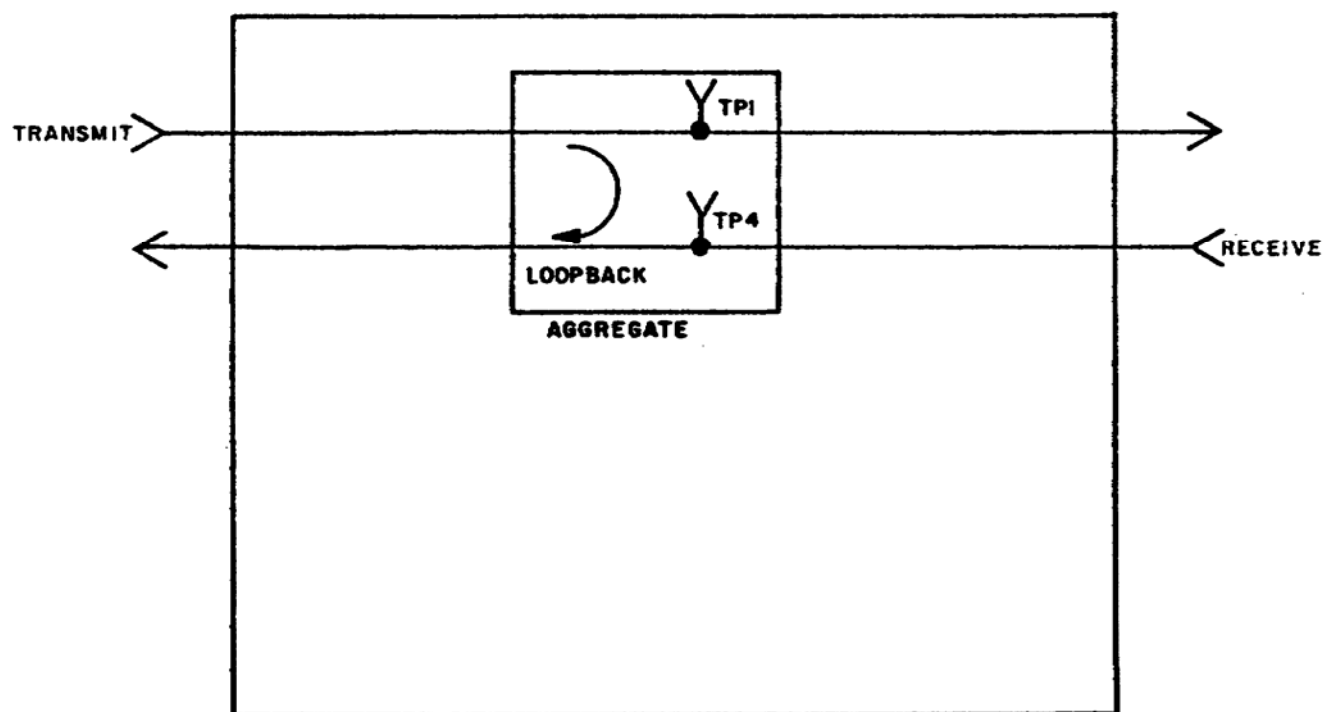

Figure 7. Data Flow, Aggregate.
(2) An aggregate loopback (local only) is equivalent to placing a jumper between the transmit and receive data lines at the transmit input side of the aggregate module (see figure 7). During an aggregate loopback, all ports at the far end unit receive a stream of all 1's.